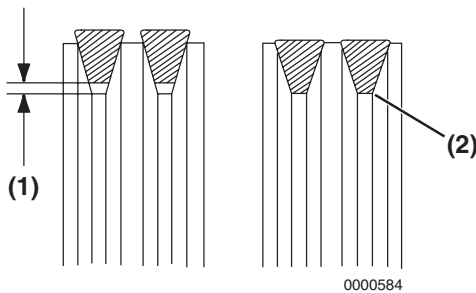

Figure 5-6
- Tighten the V-belt to the proper tension. There must be clearance (**Figure 5-6, (1)**) between the V-belt and the bottom of the pulley groove. If there is no clearance (**Figure 5-6, (2)**) between the V-belt and the bottom of the pulley groove, replace the V-belt.